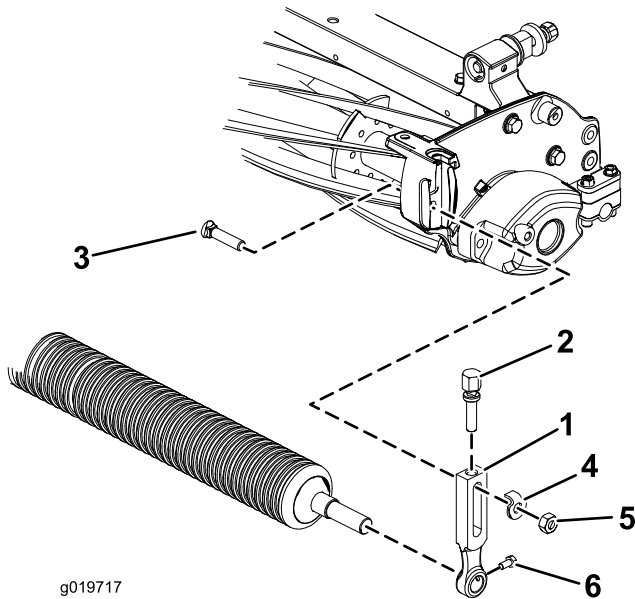

Figure 1
2. Remove the plow bolts, washers, and flange nuts securing the height-of-cut arms to the cutting unit side plates (Figure 1).
3. Remove the height-of-cut arms and the front roller (Figure 1).
4. Remove the screws securing the roller shaft to the height-of-cut arms (Figure 1).
5. Remove the adjusting screws from the height-of-cut arms (Figure 1).